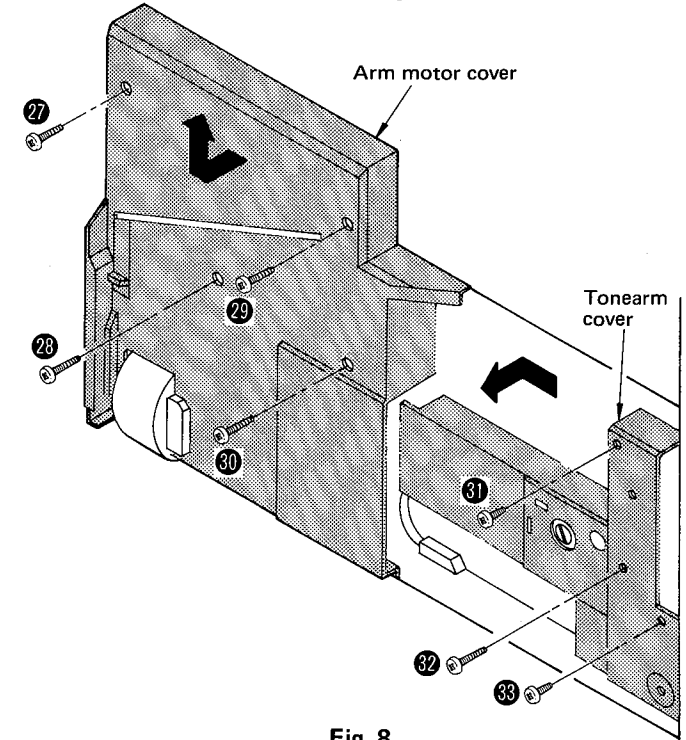

Fig. 8
2. Remove the 4 screws of the arm motor cover (Fig. 8 : 27 ~ 30) and detach the arm motor cover in the direction of the arrow.
2. Remove the 3 screws of the tonearm cover (Fig. 8 : 31 ~ 33) and detach the tonearm cover in the direction of the arrow.